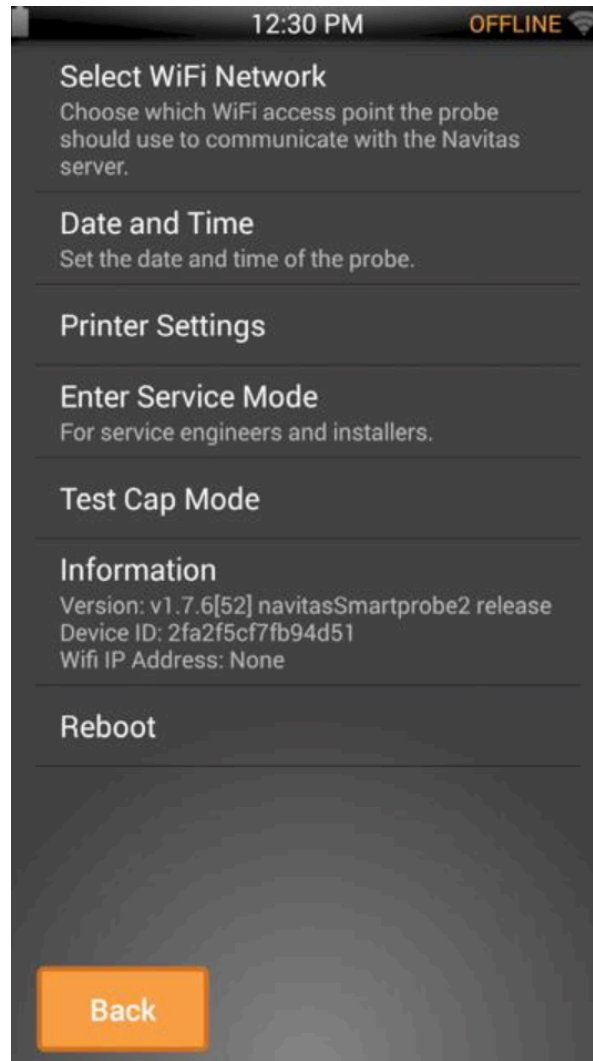

Fig. 7 – Smart Probe settings screen.
2. You are now in the settings screen. Click on “Select WiFi Network” (see Fig 7.).